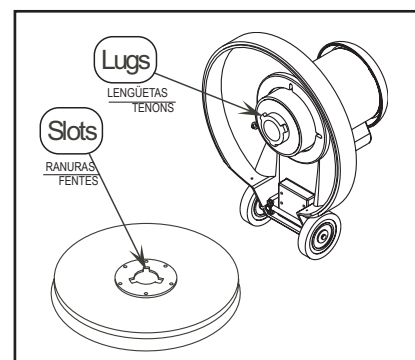

Figure 2
1. Align the lugs with the corresponding slots in the pad driver and turn the pad driver counterclockwise to lock it in place (figure 2). To remove pad driver, give it a quick hard turn clockwise.